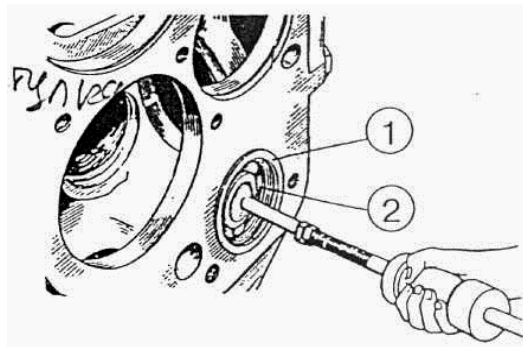

Figure 5.7
5) press out of gear box body bearing (2) (figure 5.7) and bushing (1) back as tractor travels;